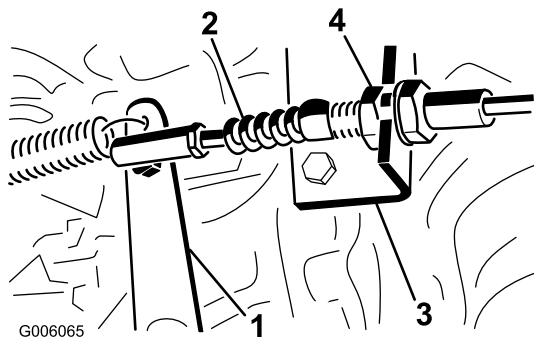

Figure 6
13. Remove the (2) capscrews securing the clutch cable mounting bracket to the bell housing (Figure 6).
14. Remove the nut securing the clutch cable ball joint to the clutch lever (Figure 6).